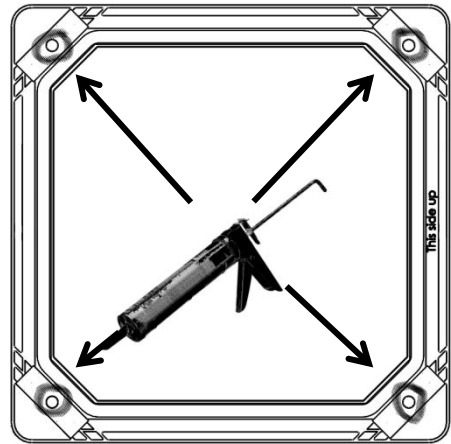

Figure 6 - Sealant around bolt holes on the top side
- Apply a circle of sealant around each of the four bolt holes. Figure 6